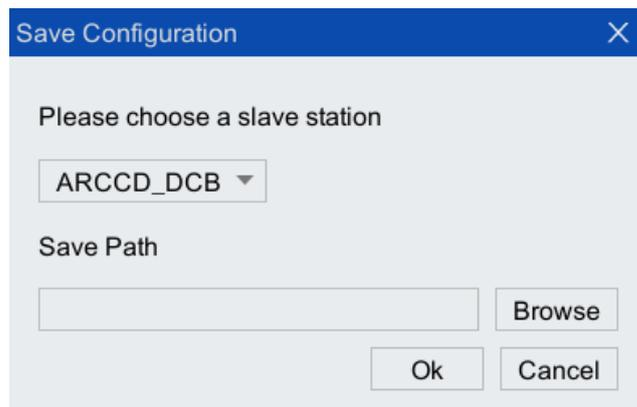

Figure 8-58 Export Configuration File
Step1.On the main interface of the teach pendant, click "System > System and Update > Export Configuration" option, and the "Save Configuration" interface as shown in Figure 8-58 pops up.